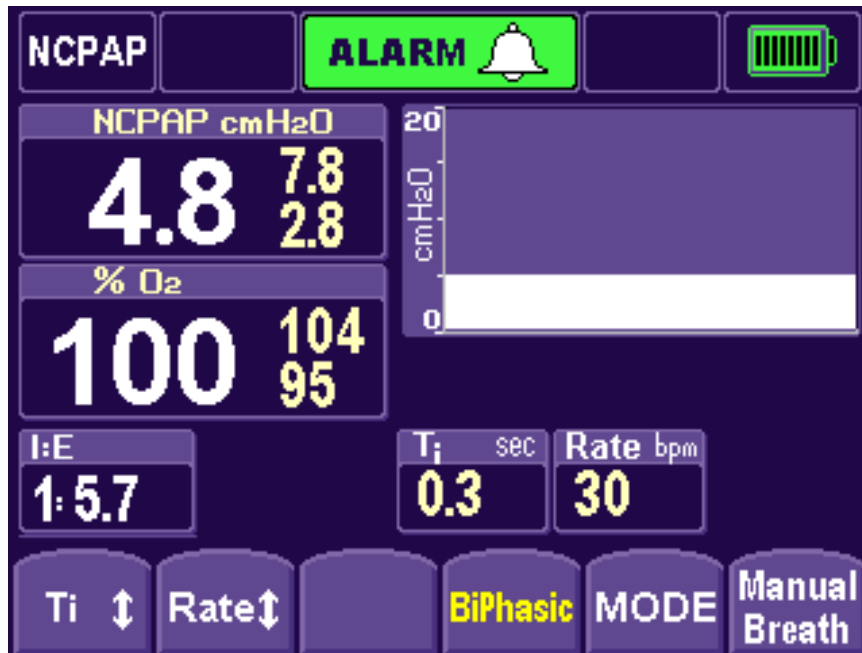

Figure 4
10. Accept the default BiPhasic settings by selecting the BiPhasic soft key again (Figure 4).